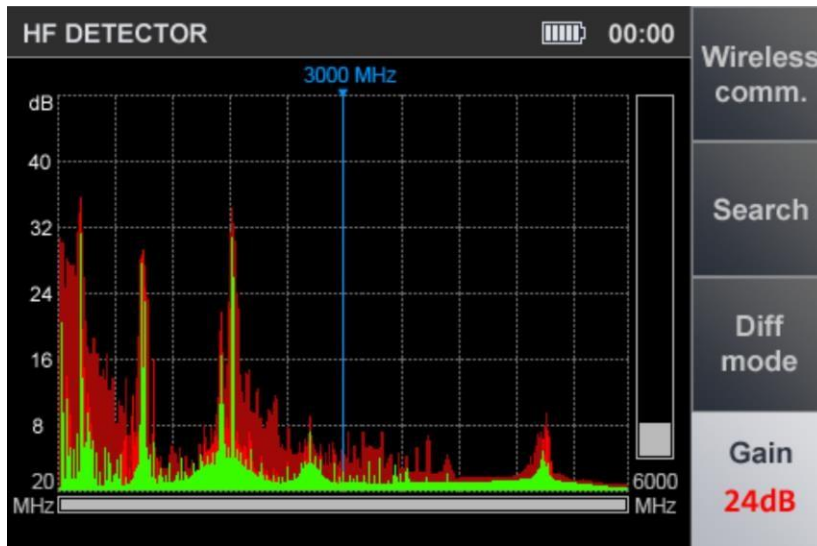

Fig.10
2. Use the keys     to set the gain in dB (0, 8, 16, 24, 32, 40). The gain value will be shown in the corresponding screen field (fig.10).